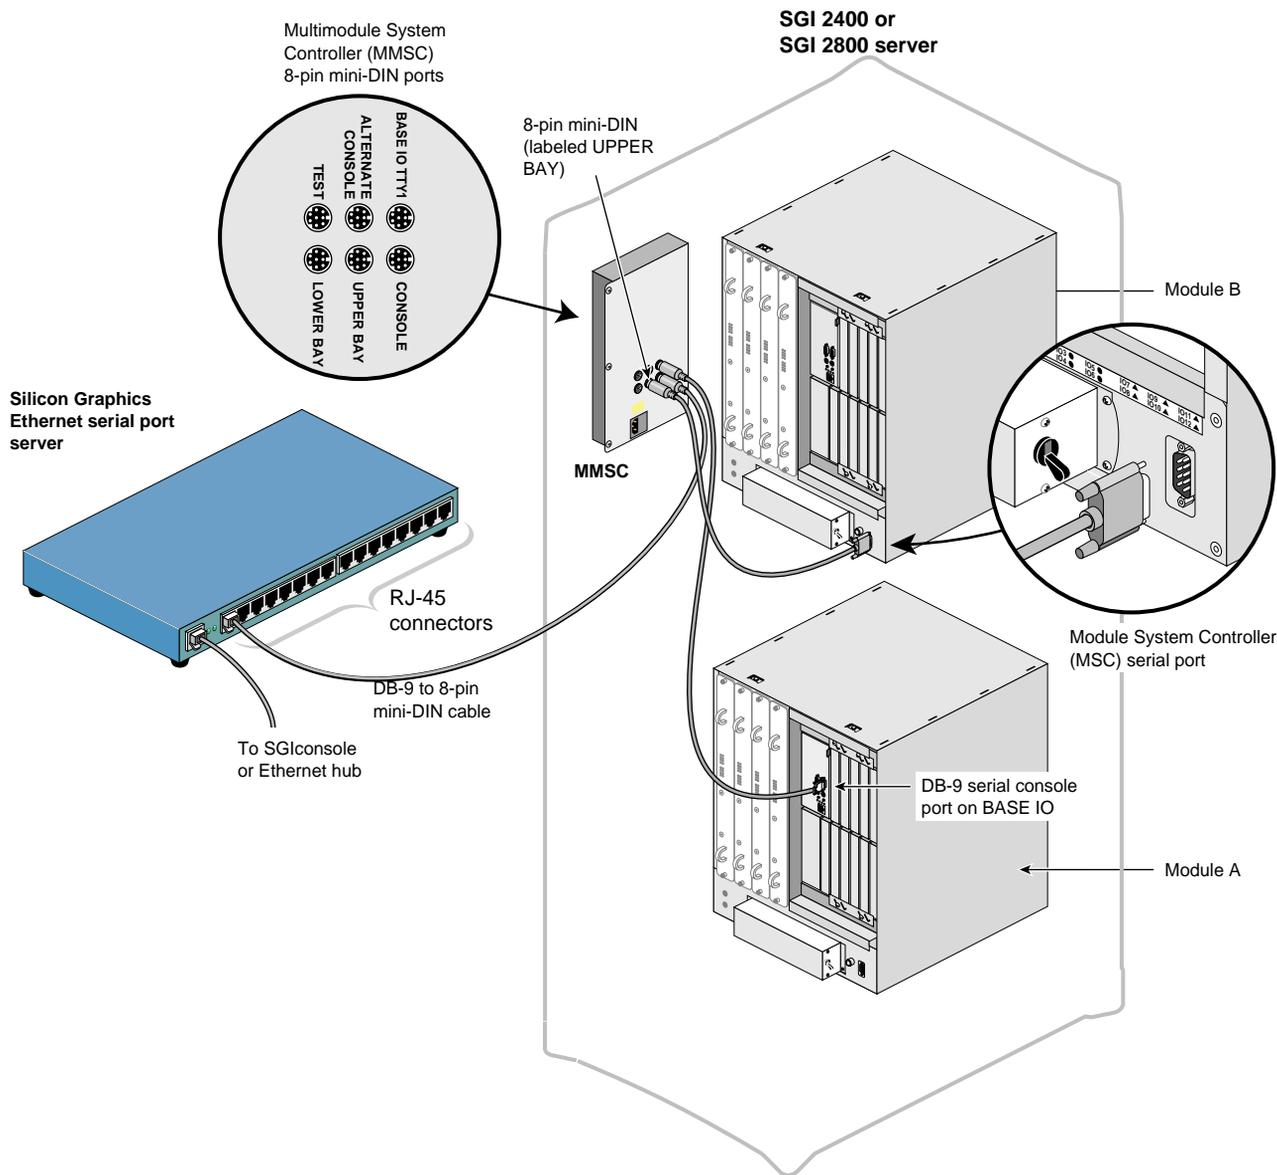

Figure 5-22 Connecting the MMSC Upper Bay Connector to the Module B MSC Serial Port
8. Connect the 8-pin connector of the second 8-pin mini-DIN to DB-9 cable to the MMSC connector labeled “Upper Bay.” Connect the DB-9 connector end of the same cable to the Module System Controller (MSC) serial port rear panel connector of the SGI 2400 or SGI 2800 server module B located in the upper bay of the rack. See Figure 5-22.